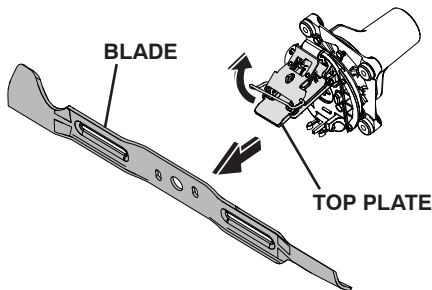

Fig. 21
- Open the top plate and remove blade. (See Fig. 21.)